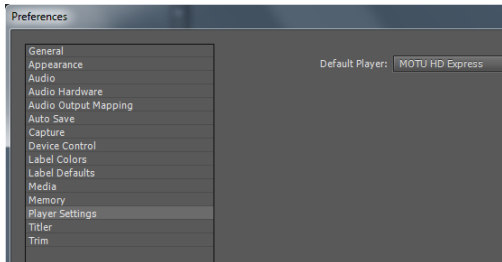

Figure 7-10: Choosing the HD Express as the default player.
- 2 Choose the MOTU HD Express as the Default Player (Figure 7-10).